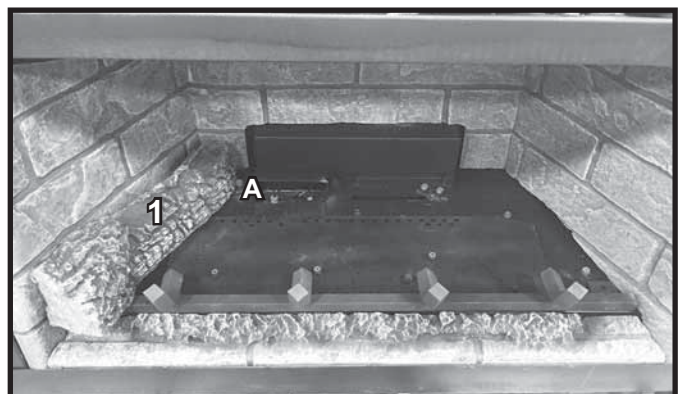

Figure 4. Log #1 Installed
**LOG #1:** Set log #1 against left refractory and slide back until the burnout end touches the back refractory. Rotate log so the burnout end touches pin A and bark end touches left refractory. See Figure 4.